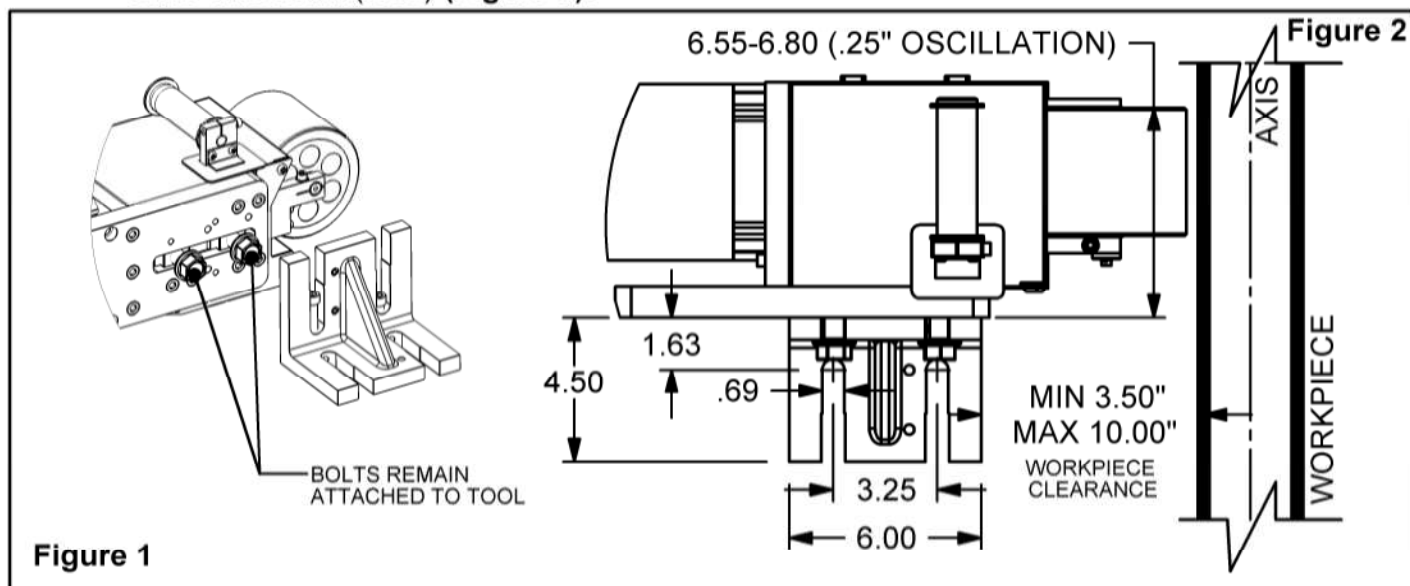

Figure 1
STEP 1: Remove mounting bracket (98342) from tool (**Figure 1**).